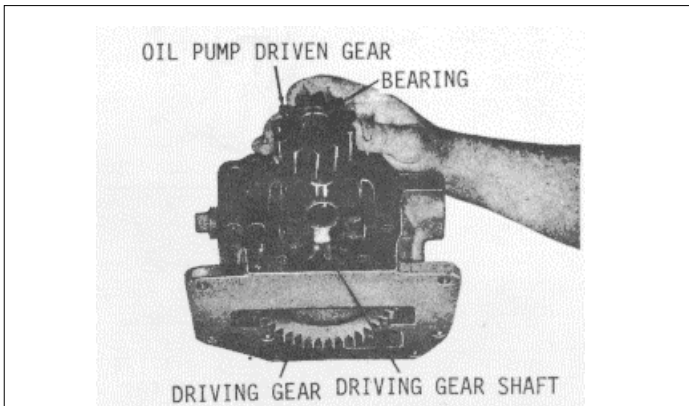

Fig. 29
- (f) Remove the oil pump driven gear and bearing as an assembly (Fig. 29). Do not remove the bearing from the gear unless replacement is necessary. If necessary, remove the bearing.
- (e) If needle roller bearing (Fig. 29) was removed from the pump driven gear, install new replacement. Install bearing, pressing on the numbered end of the bearing cage and into the chamfered end of the gear, flush with the bottom of the chamfer in the gear.
- (f) Install the assembled gear and bearing into the oil pump body (Fig. 29).
- (i) Install the oil pump body cover gasket and assembled cover onto the oil pump body and secure with six bolts and lock washers (Fig. 29).